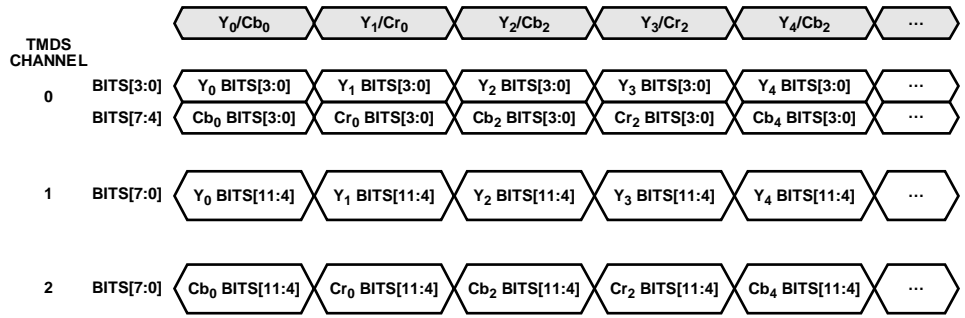
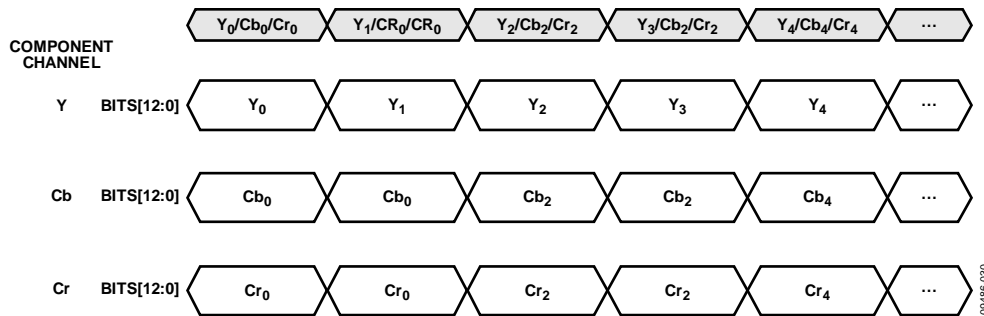

Figure 28. YCbCr, 4:2:2 Video Data Encapsulated in HDMI Stream
Figure 29. Video Stream Output by HDMI Core for YCbCr, 4:2:2 Input and **UP\_CONVERSION** = 0
- If the HDMI section receives a stream with video encoded in a 4:2:2 format (refer to Figure 28), the HDMI section upconverts the video data into a 4:4:4 format, according to the **UP\_CONVERSION\_MODE** bit, and passes the upconverted video data to the DPP section (refer to Figure 29).